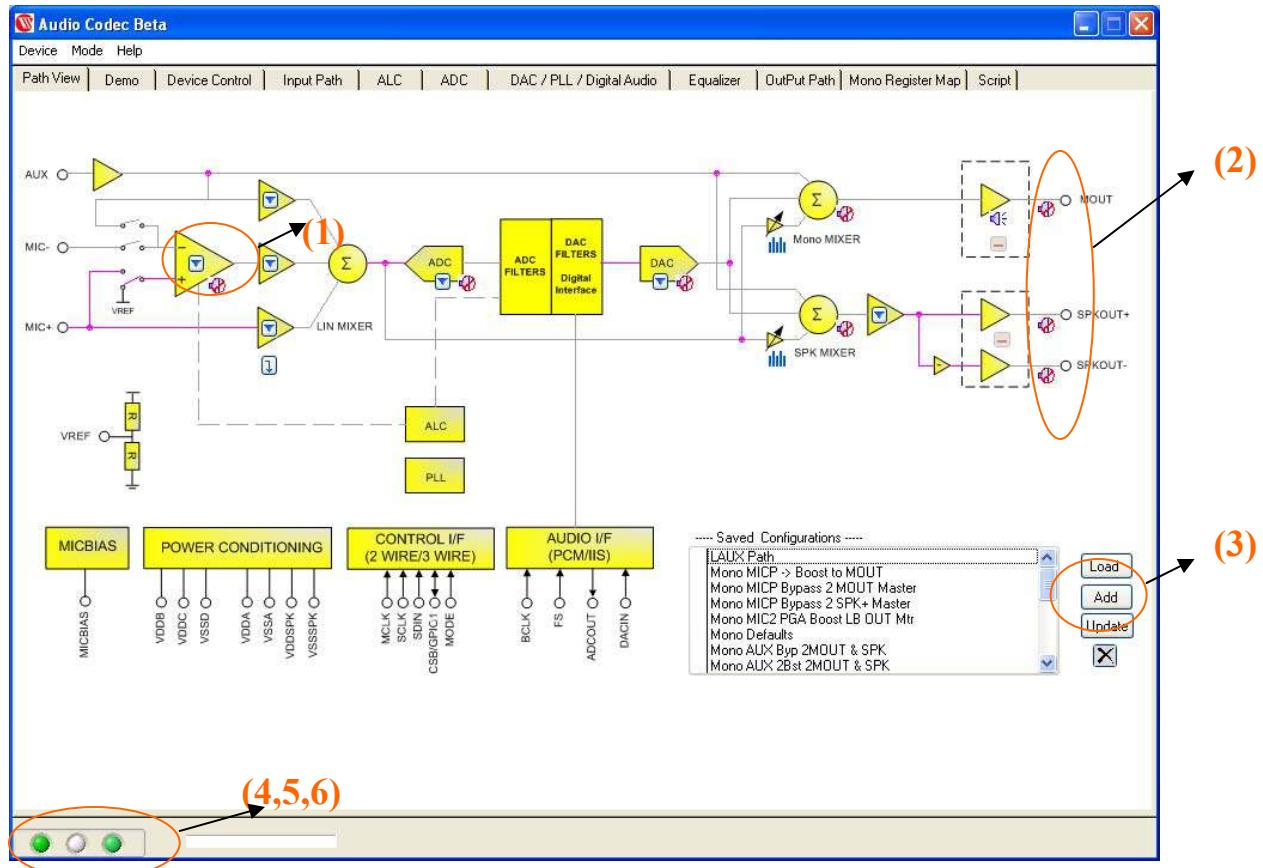

Fig2:
From the start up screen select WAU8812 to go to Mono GUI. The first screen you will see is a graphical representation of all relevant blocks of the WAU8812 Audio Codec called path view. Each block has its own screen panel which represents associated control registers for that block. In this panel you can select various gains setting from the ring popup menus (1) or use Icons to mute and un-mute (2) (See Fig2).